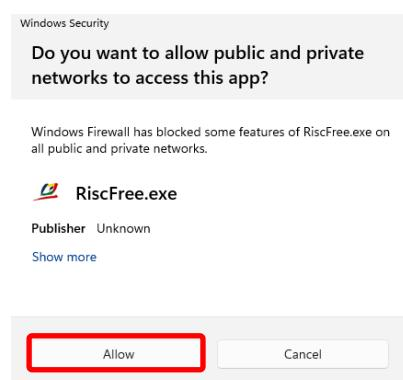

Figure 39 Windows Security Screen
- If you see the Windows Security screen shown in Figure 39, click Allow.